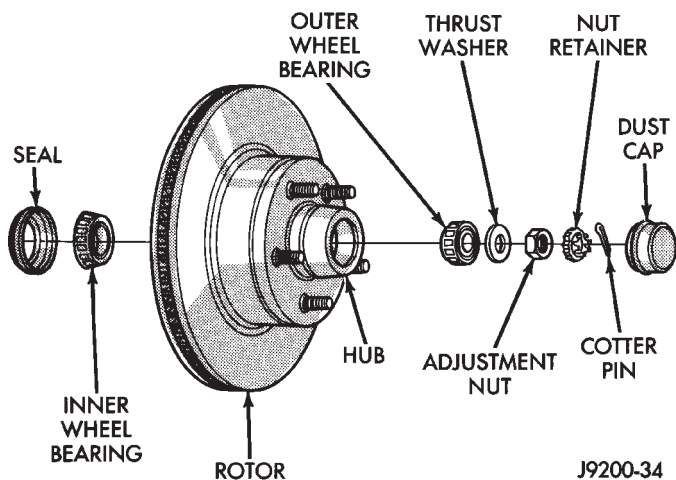

Fig. 3 2WD Front Wheel Bearings—XJ Vehicles
(1) Remove the wheel/tire and the disc brake caliper. **Do not disconnect the caliper brake fluid hose unless the caliper must also be removed for maintenance. Support the caliper with a hanger to prevent brake fluid hose damage.**
(2) Remove the dust cap, the cotter pin, the nut retainer, the adjustment nut, and the thrust washer from the spindle (Fig. 3). Discard the cotter pin.